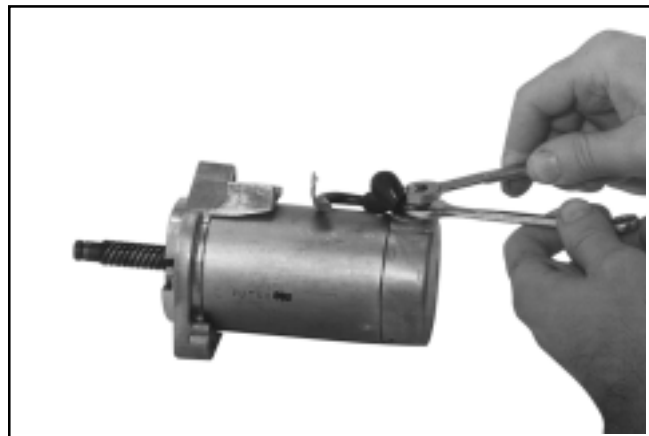

Figure 8-28. Removing Solenoid Lead.
2. Disconnect the solenoid lead from the starter terminal. Hold the lower jam nut from turning with a wrench while loosening the top nut, to prevent damaging internal components. See Figure 8-28. The solenoid may be removed or left in place.